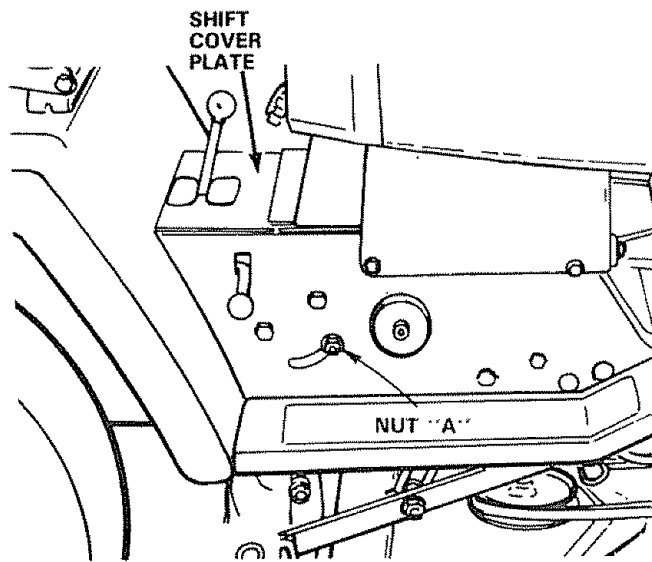

FIGURE 21
- Remove (4) hex washer head tapping screws from shift cover plate (Fig. 21), located on top of tractor frame. Remove the cover plate.